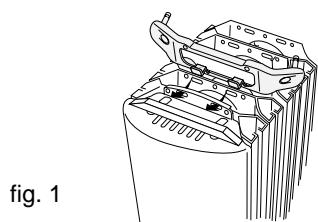

fig. 1
- Insert the anchor tabs on the feet into the slots in the radiator (fig. 1).